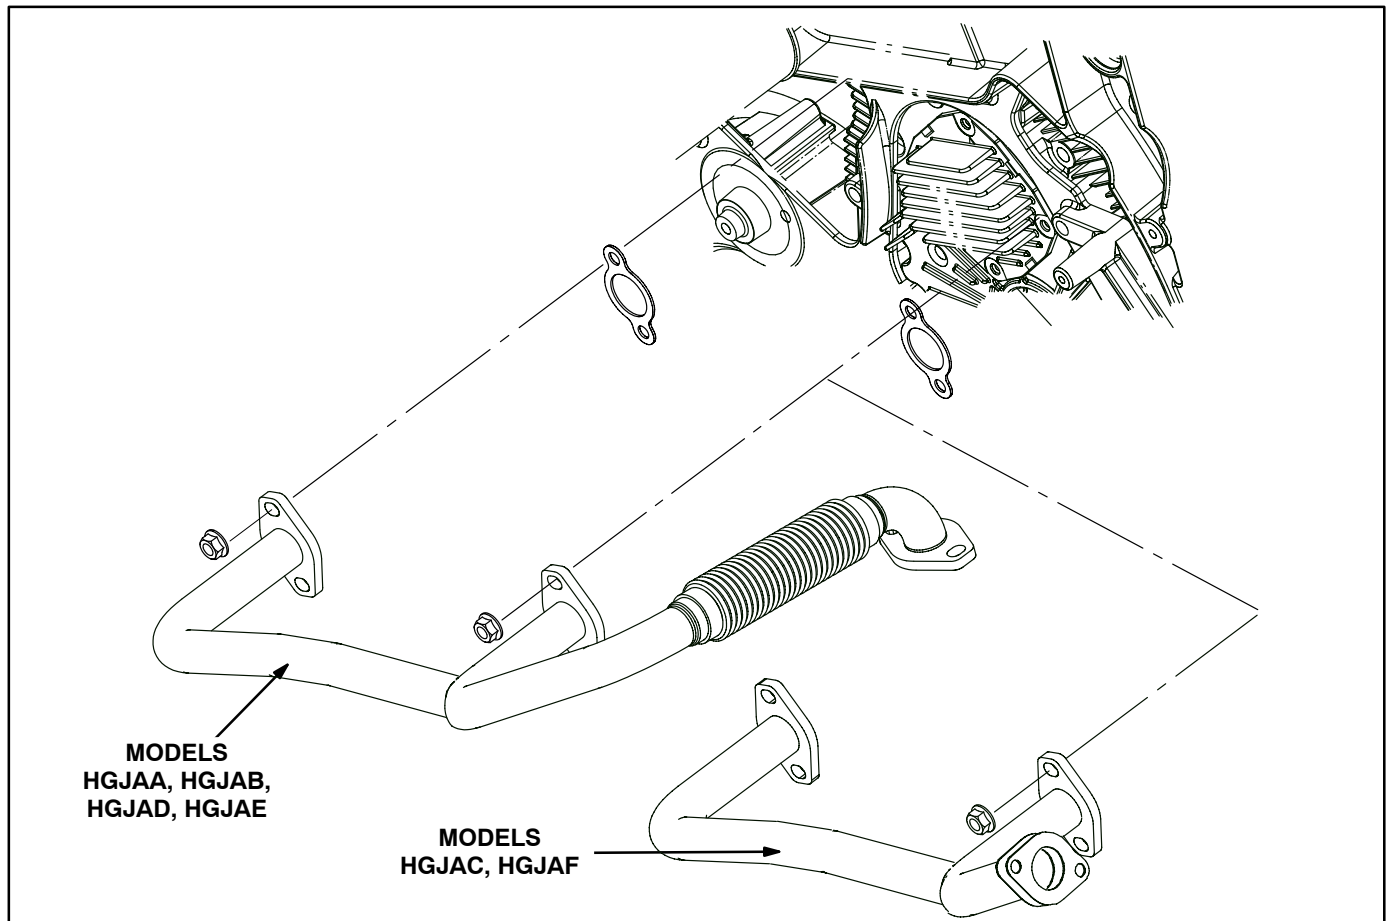

FIGURE 7-4. EXHAUST MANIFOLD
3. Remove the two flange bolts in each of the two exhaust outlet flanges and remove the manifold (Figure 7-4).